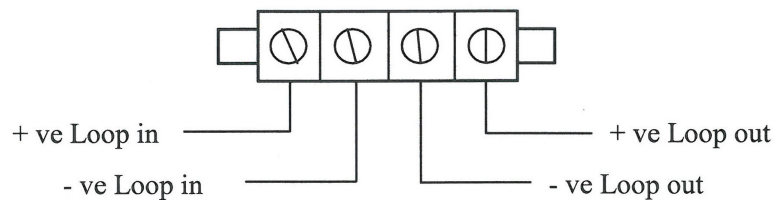

Figure 2
- Make the Loop connections as shown in figure 2 below and on the product Label. An Earth point is provided in the Back Box moulding if required.